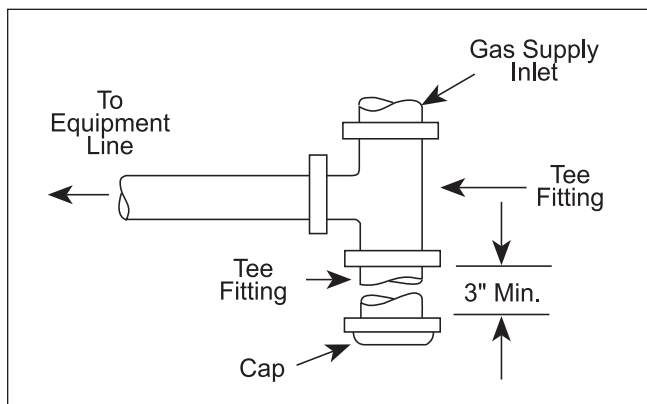

Figure 8. Sediment Trap Installation.
3. A sediment trap (drip leg) must be provided ahead of the gas controls (see Figure 8). A manual gas shutoff valve must also be provided for service convenience and safety. Check the local codes.